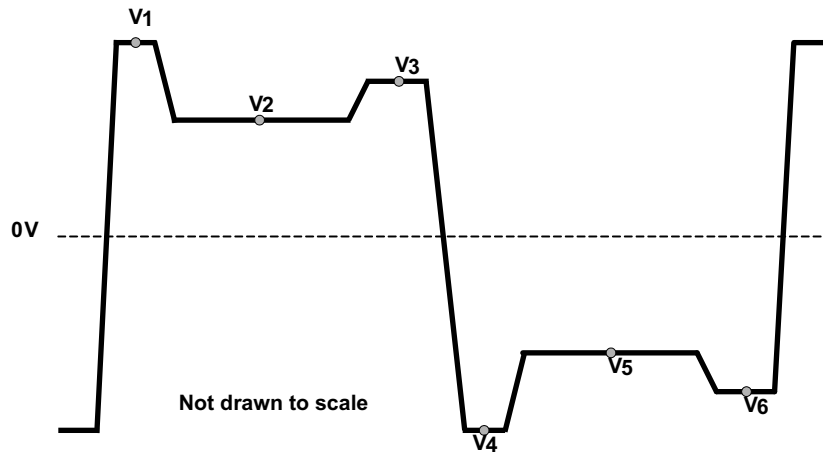
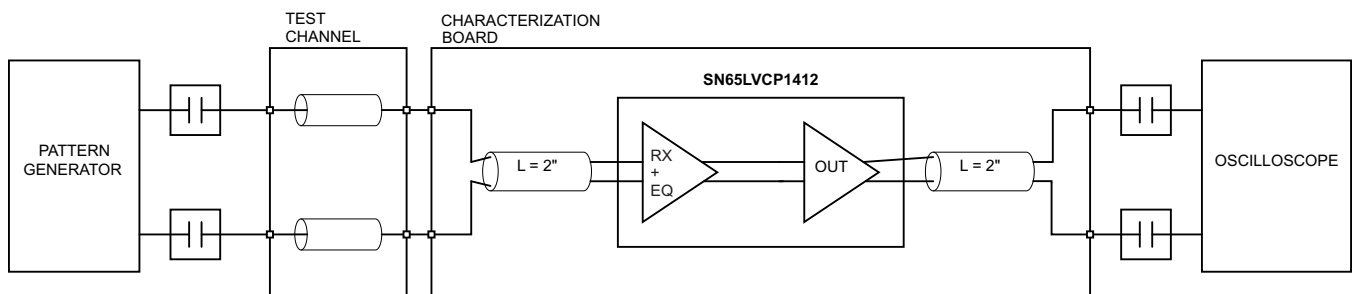
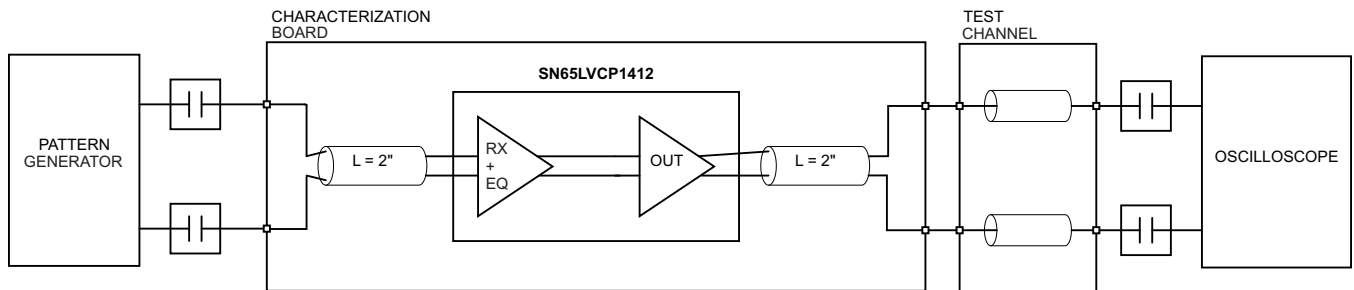

Figure 9. Vpre and Vpost (The test pattern is 1111111100000000 (8-1s, 8-0s))
Figure 10. Receive Side Performance Test Circuit
Figure 11. Transmit Side Performance Test Circuit
(2) Rise and Fall measurements include board and channel effects of the test environment, refer to Figure 10 and Figure 11
(3) tSK(O) is the magnitude of the time difference between the channels.
(4) tSK(PP) is the magnitude of the difference in propagation delay times between any specified terminals of two devices when both devices operate with the same supply voltages, at the same temperature, and have identical packages and test circuits.
(5) All noise sources added.
Regarding timing, the SN65LVCP1412 is I2C compatible. The typical timing is shown in Figure 9 and a complete data transfer is shown in Figure 10. Parameters for Figure 9 are defined in Table 3.